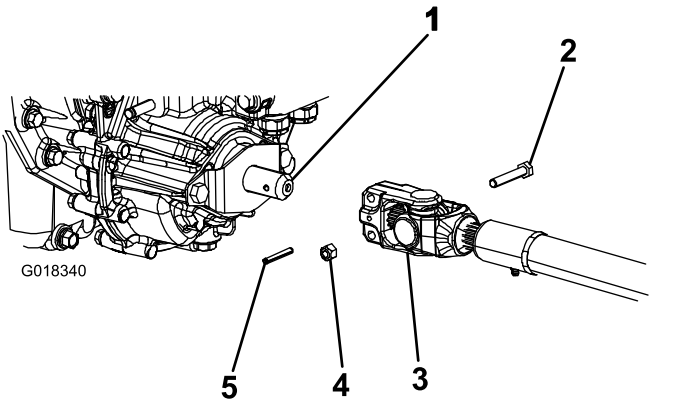

Figure 4
3. Position the PTO driveshaft under the front of the machine. Ensure that the slip-shaft yoke of the driveshaft is positioned toward the transmission driveshaft (Figure 4).